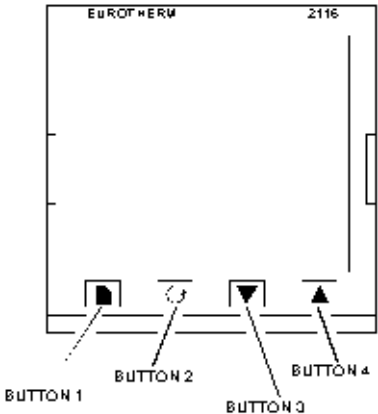

Figure 1: Temperature Controller Front Panel
- 16. At the Temperature Controller front panel, (Figure 1) execute the procedure in Table 1.